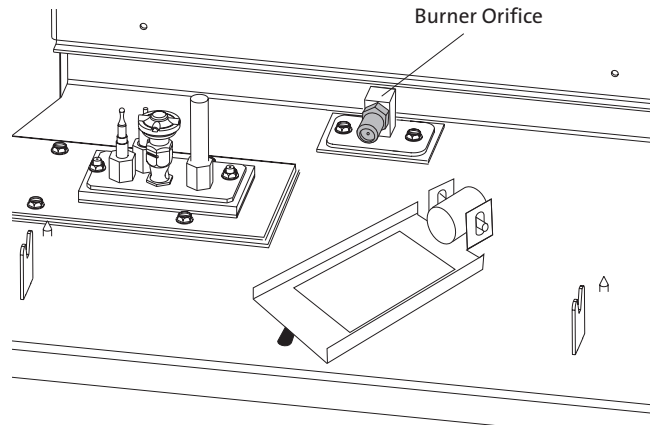

Figure 14. Main orifice location with burner skirt and burner assembly removed.
- Loosen the wingnut on the Air Shutter Stem, located under the center of the firebox floor, and push the stem as far as it will go toward the back of the insert. Disengage the burner assembly from the Air Shutter by lifting it up and back, out of the firebox. Swing the Air Shutter out of the way to access the burner orifice. Fig. 14.